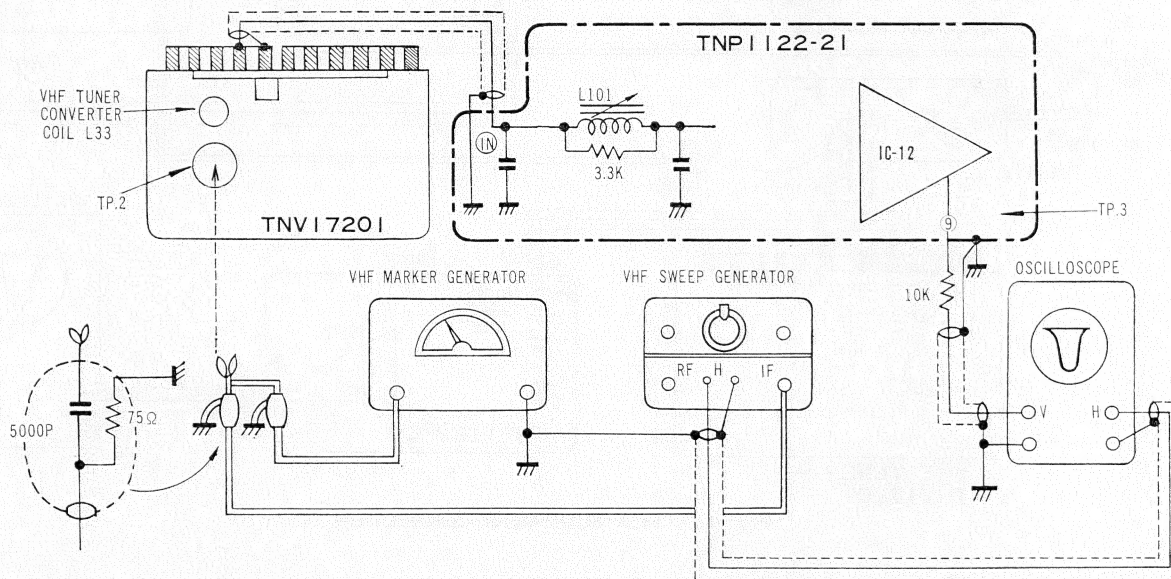

Fig. 4-1 TEST EQUIPMENT CONNECTIONS
#### (I) TEST EQUIPMENT CONNECTIONS (Fig. 4-1)
- Oscilloscope ..... (V) Connect to the IC 12 ⑨ (TP. 3) with a 10K $\Omega$  resistor in series with the center wire of the shielded cable.
- (H) Connect to the Sweep Generator to obtain horizontal deflection.
- Sweep & Marker..... (1) Unsolder the junction of IC 16 terminal ④ and C155.
- (2) Apply AGC bias to the terminal T of the printed circuit board TNP 1121-21 through the AGC bias circuit.
- (3) Set the channel selector switch to VHF 2~4 and set the channel selector to the low end.
- (4) Connect the sweep and marker generators to the VHF tuner test point (TP. 2)